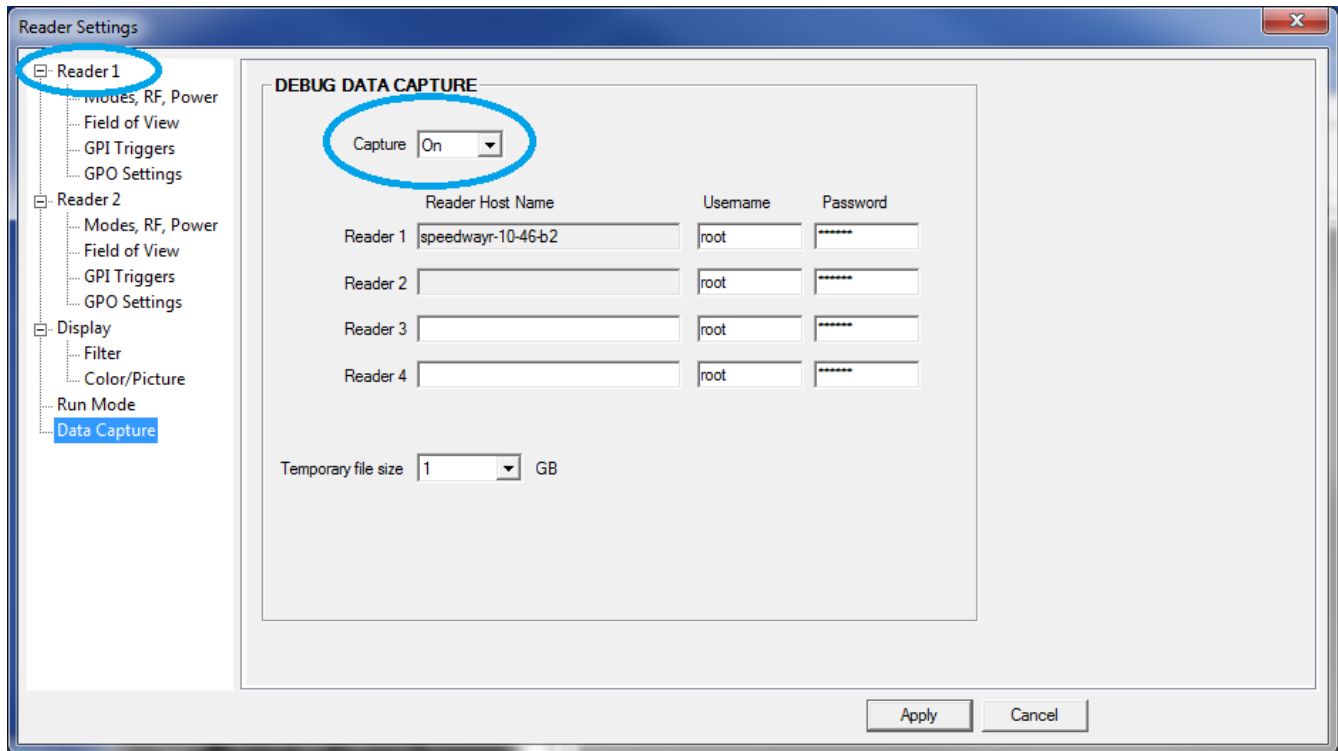

Figure 8.2 Reader Settings, Tag History & Debug Data Capture
5. In the left pane, select **Data Capture**. The screen shown in Figure 8.2 displays: